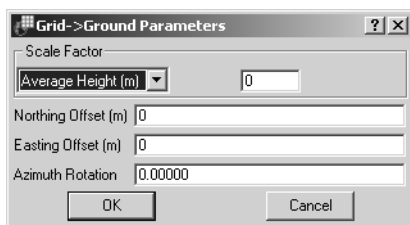

Figure 3-49. Grid->Ground Parameters Dialog Box
3. On the *Grid->Ground Parameters* dialog box, enter the transformation parameters (Figure 3-49).